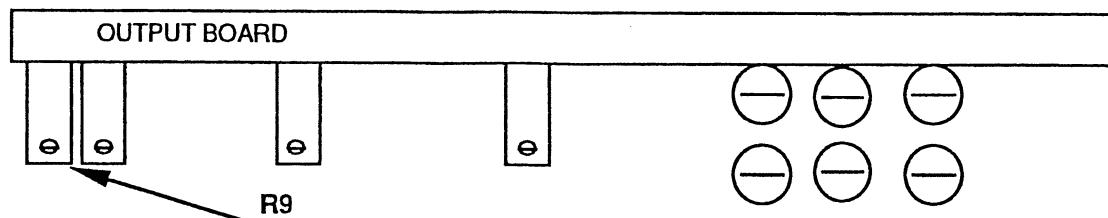

Figure 4-16. R9 Locator
2. Slide the cover back, and adjust R9 on the output board (see figure 4-16) while observing the scope. Use the scopes delta time cursors to measure the two halves of the square's time symmetry between the 50% points. Adjust R9 until the time symmetry is equal ± 0.5 ns. Slide the cover back on.